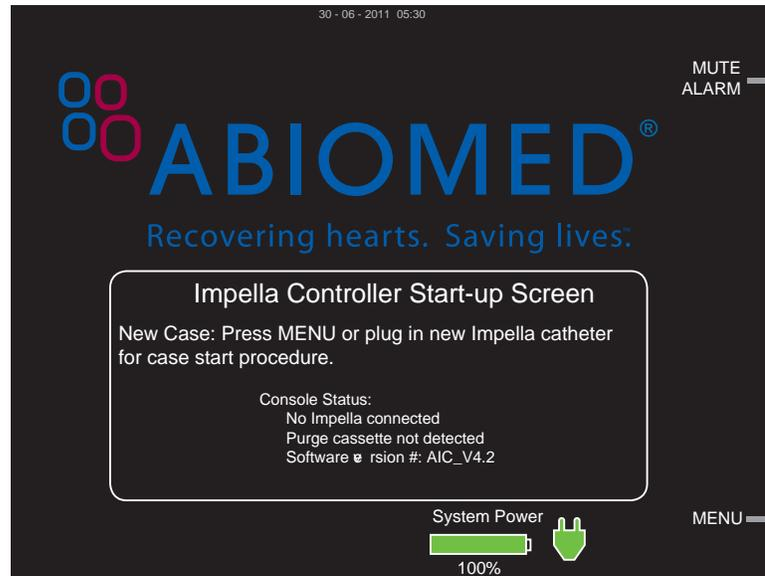

Figure 5.2 Automated Impella® Controller Startup Screen
A display bar shows the progress of the system test. If the system test passes, the system displays the startup screen (see Figure 5.2).
The startup screen (see Figure 5.2) appears when you successfully turn on the Automated Impella® Controller.
- The current status of the Impella® Catheter (currently not connected to the Automated Impella® Controller in Figure 5.2).
- The current status of the purge cassette (no purge cassette detected in Figure 5.2).